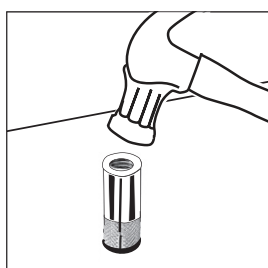

Figure 8
7. Insert the supplied expanding bolt into the hole and tap into place using a hammer until even with the floor surface (Figure 8).